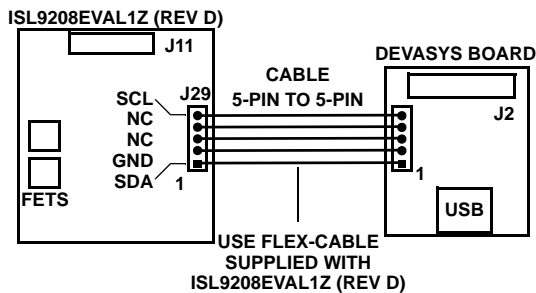

FIGURE 5. I²C CONNECTION TO ISL9208 PCB
- Connect the I²C cable from the interface board to the ISL9208EVAL1Z (Rev D), as in Figure 5. The kit may come with a 5-pin to 5-pin cable or a 5-pin to 4-pin cable. Use the 5-pin to 5-pin cable.